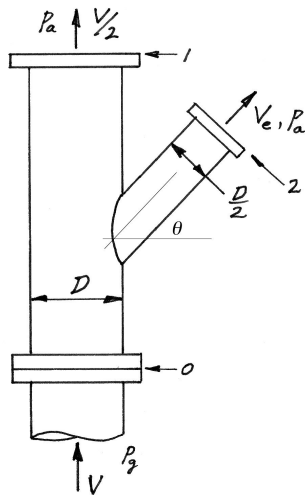

Figure P3.43.
3.43 A circular pipe carries a steady flow of air of constant density ρ . The flow exits to atmosphere in two places through circular exits, labeled 1 and 2 in Figure P3.43. At the entrance (labeled 0 in the figure), the gauge pressure is p_g , the velocity is V , and the pipe diameter is D . At exit 1, the diameter is D and the velocity is $V/2$. At exit 2, the diameter is $D/2$. Assume one-dimensional, frictionless flow, and ignore gravity.